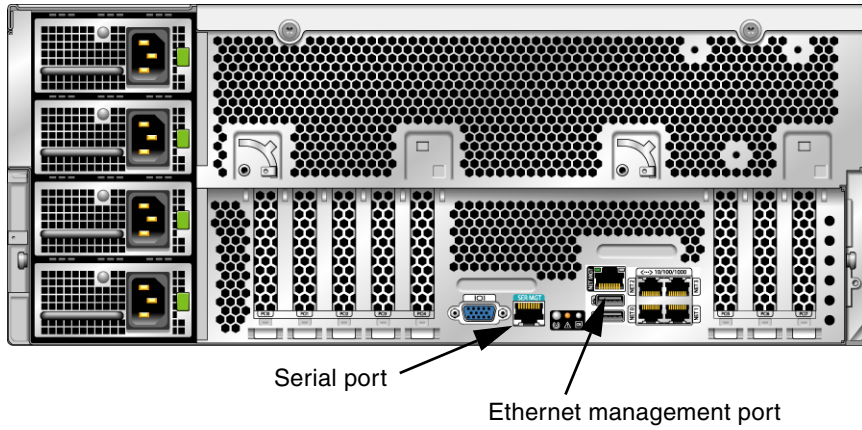

FIGURE 1 Sun Fire X4600/X4600 M2 Servers Rear Panel With Port Locations
- FIGURE 1 shows the location of the serial port and the Ethernet management port.